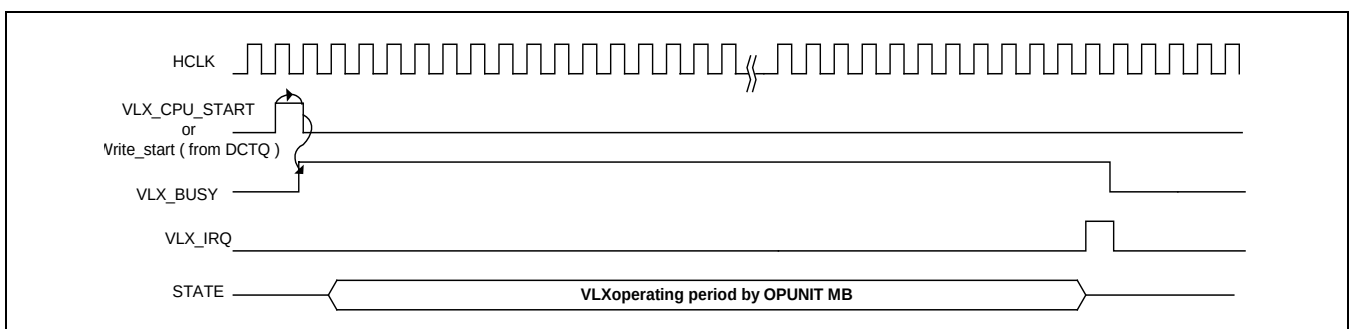

Figure 24-27. Start Signal, Busy Signal and Interrupt Signal in VLD mode.
- Start signal and busy signal and interrupt relation is Figure 24-27.